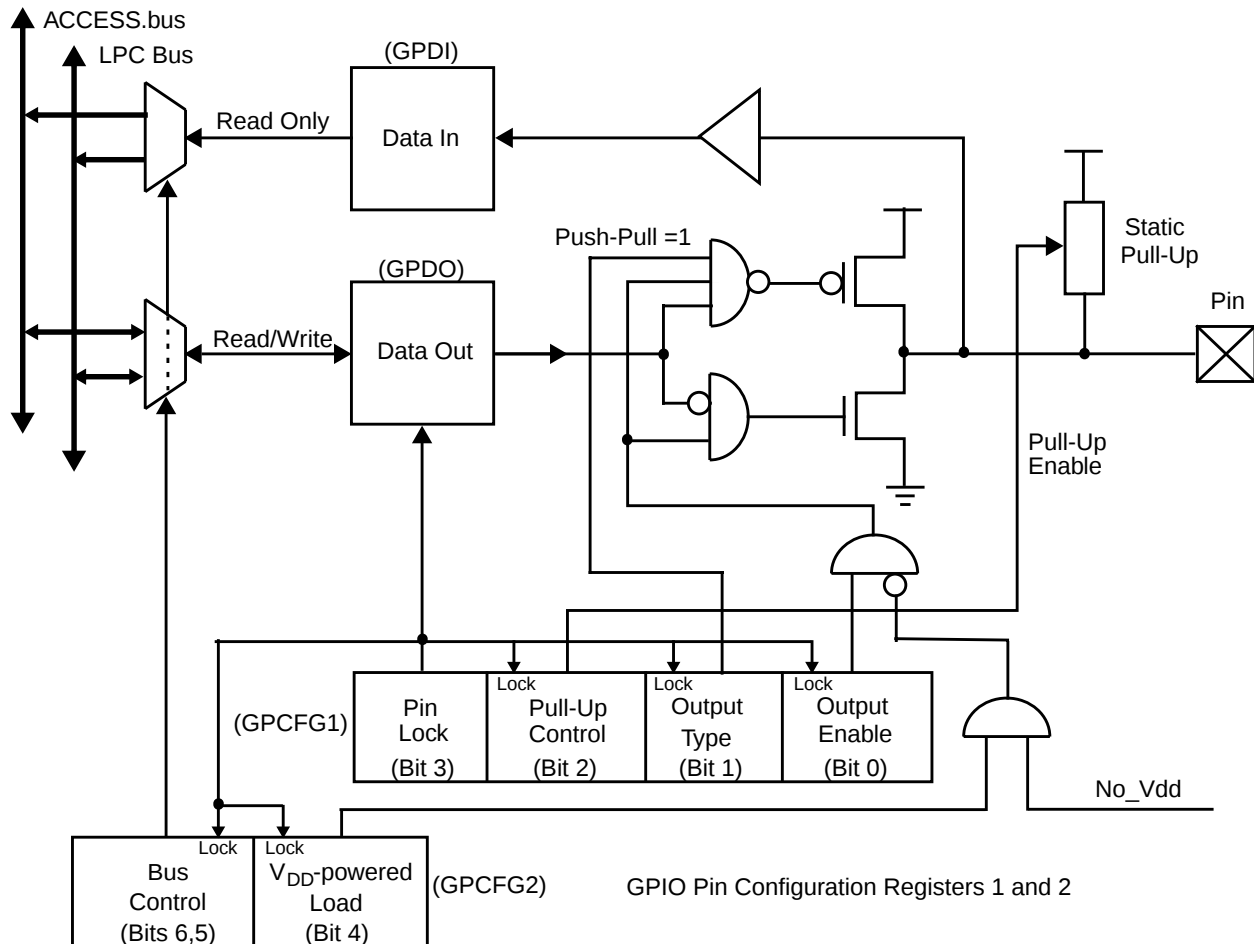

Figure 36. GPIO Basic Functionality
The basic functionality of each GPIO pin is based on four configuration bits and a bit slice of runtime registers GPDO and GPD1. The configuration and operation of a single pin GPIOXn (pin 'n' in port 'X') is shown in Figure 36.
- Access Control - Limits access to the specific pin from only one of the buses (ACCESS.bus or LPC bus). When access from a bus is disabled, attempted writes to the Basic Functionality configuration registers (GPCFG1 bits 3-0 and GPCFG2 bits 6-4, none of which are shown in Figure 36) and to the corresponding bit in the GPDO register are ignored. Reads from the bits above and from the corresponding bit in the GPD1 register are allowed and return the actual bit value. Bus access is controlled by Bus Control bits (bits 6 and 5). After reset, both bits are '0' and access is allowed from both ACCESS.bus and LPC bus. **In the PC87414 and PC87416, this feature is irrelevant because only the LPC bus is available.**